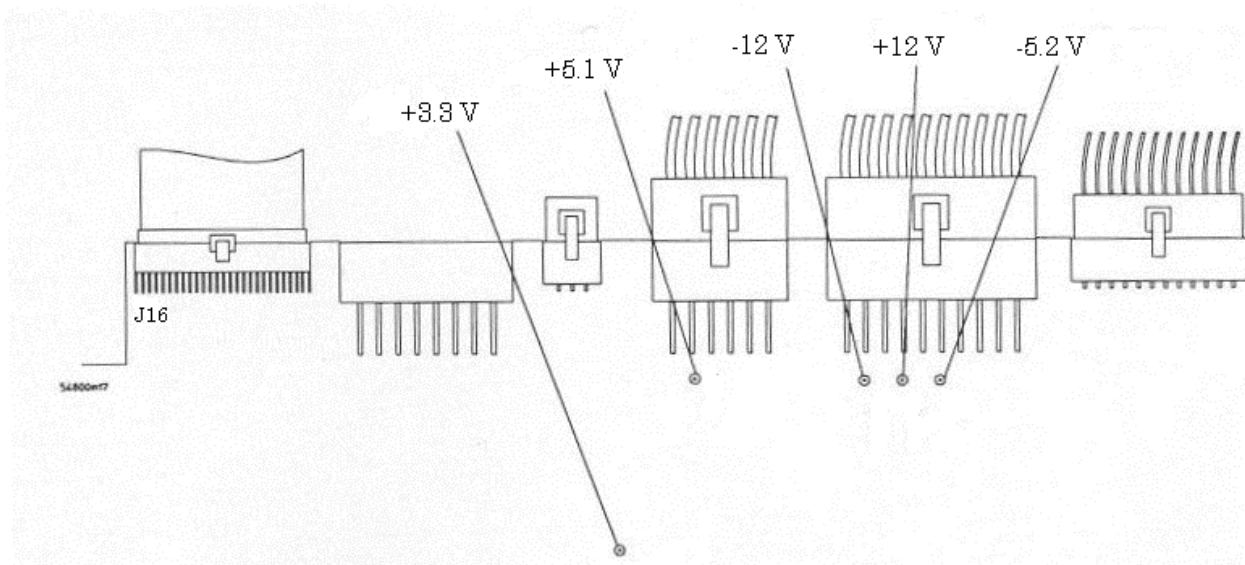

Figure 1. Power supply test points
- (1) Press TI  button to power down TI.
- (2) Disconnect power cord and remove TI cover.
- (3) Reconnect power cord and press TI  button to power up TI.
- (4) Connect multimeter common lead to TI ground.
- (5) Connect multimeter positive lead to TI +5.1 V test point (fig. 1).